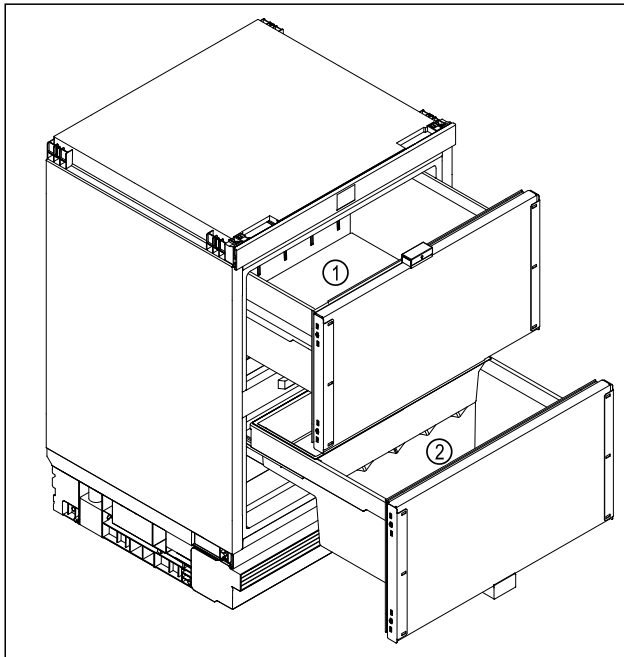

Fig. 7 Example illustration
- ▶ Upper telescopic unit Fig. 7 (1): Store particularly perishable foods such as ready meals, fish, meat and sausage products, packaged fruit and vegetables.
- ▶ Lower telescopic unit Fig. 7 (2): Store cold-sensitive foods such as potatoes, onions or tropical fruits. Store food or drinks that should not be too cold when consumed.